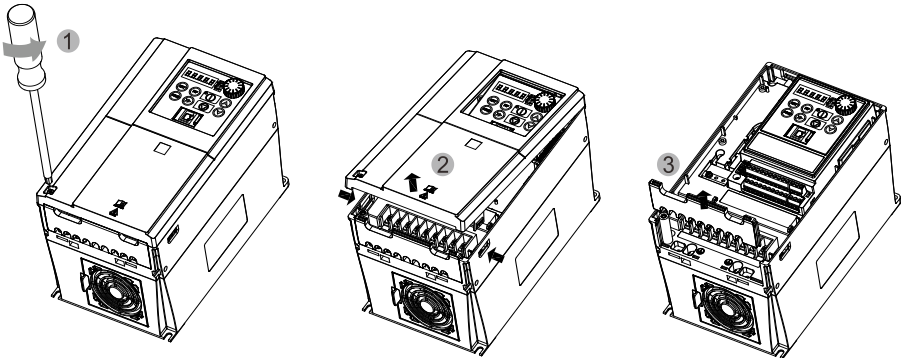

Fig. 2-5 Disassembly of keyboard
Disassembly of keyboard is shown in Figure 2-5: Use a phillips screwdriver to turn the screw counterclockwise along direction ① to loosen the screw, then remove the cover along direction ②, and finally remove the wire guard along direction ③ Remove the wire guard board